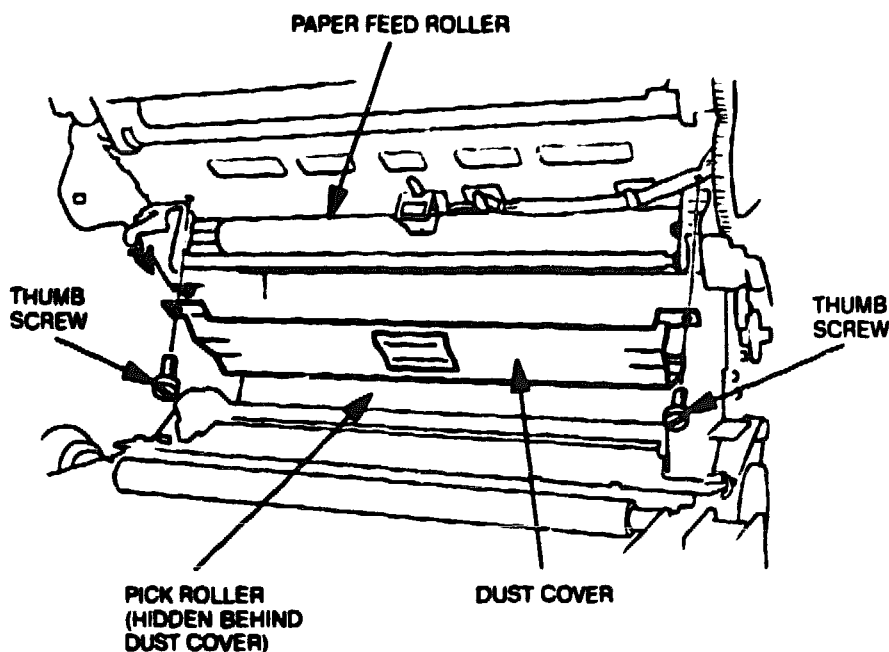

Figure 4-2 Dust Cover Removal
6. Remove the dust cover by loosening and removing the thumb screws shown in Figure 4-2. Remove any accumulated dust or foreign objects on the surfaces behind the cover. Wipe the surfaces of the paper feed roller and pick roller. Then reinstall the dust cover.